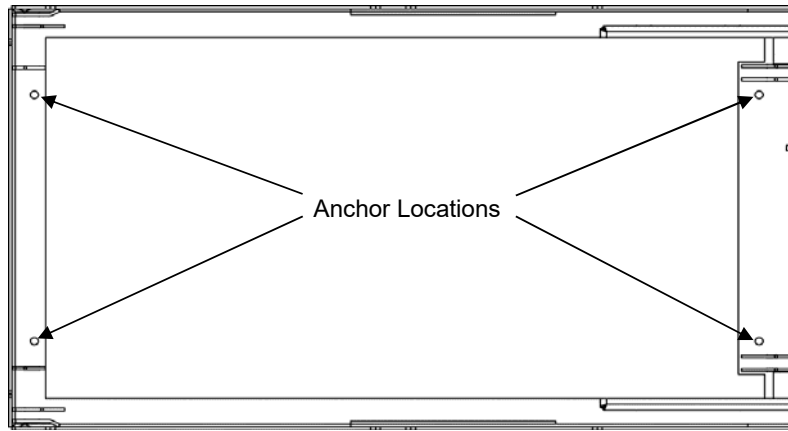

fig.3
After determining the location of the lift, mark the floor where anchor holes are to be drilled (see fig.3).
NOTE: The lift has (4) anchor points (see fig.3).
NOTE: Fig.3 shows only lift bottom pan for clarity.